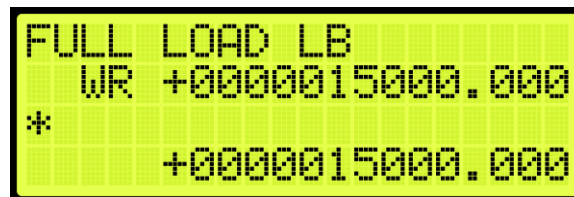

Figure 23: FULL LOAD LB Menu
2. From the Requests menu, scroll and select FULL LOAD LB (See Figure 23).